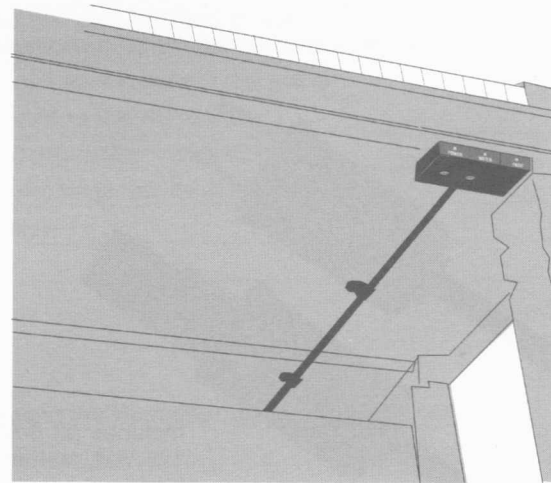

FIGURE 21
To mount the light panel select (2) 3/4-inch screws and (3) 3/16-inch clamps with (2) 1/2-inch screws. Now, run the light panel cord so that the panel is at an appropriate location under the keyboard. Usually this is at the extreme treble end beside the leg of the piano. Use the two 3/4-inch screws to attach the light panel under the keyboard (**Figure 21**). Take the phone jack adaptor from the light-panel and plug it into the Humidistat outlet marked **LIGHTS**.